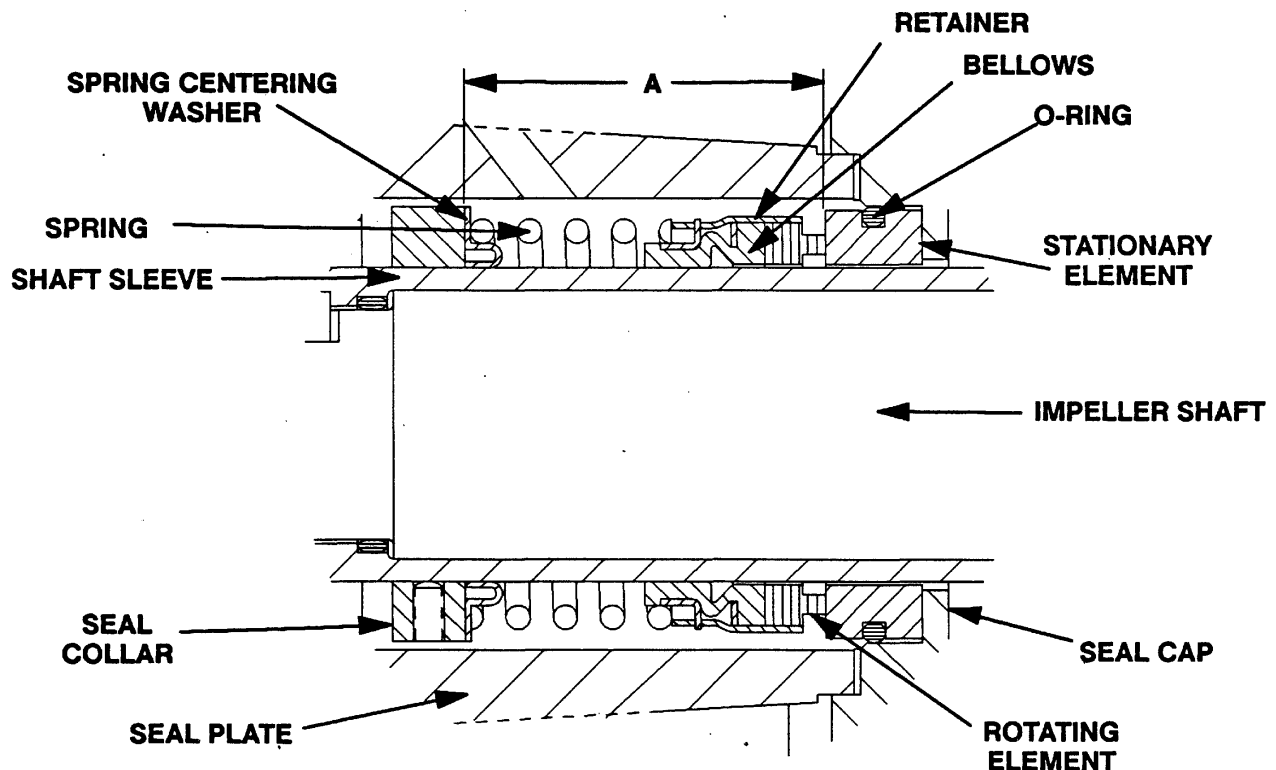

Figure 2. 25271-044 Seal Assembly
To ease installation of the seal, lubricate the shaft sleeve, O-rings and bellows with water or a very **small** amount of oil, and apply a drop of light lubricating oil on the finished faces. Assemble the seal as follows, (see Figure 2).
*If the dimension is not known, slide the sleeve onto the shaft until fully seated, and scribe the seal working length on the shaft (dimension "A" shown in Figure 2). The stationary element and O-ring must be installed to determine this dimension. The designed working length (from the stationary seal face to the collar) for this seal is 1-5/8 inches (41,3 mm). Secure the collar on the sleeve at this point with the setscrews.*